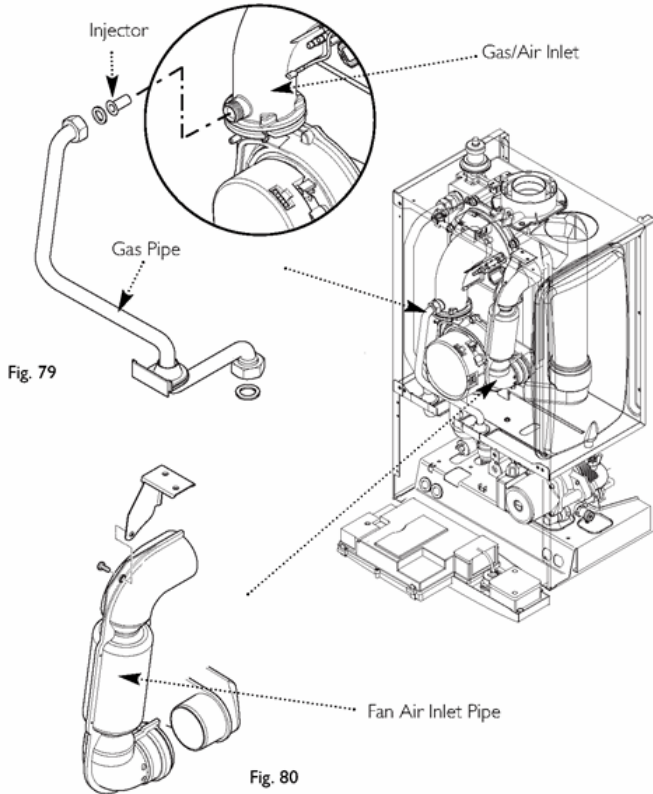

Fig. 79 & Fig. 80
1. Undo the nut on the gas pipe at the gas/air inlet (Fig. 79) and the gas valve. Remove the pipe, taking care not to lose the sealing washers. Also remove the injector.
#### 14.4 Injector (Fig. 79)